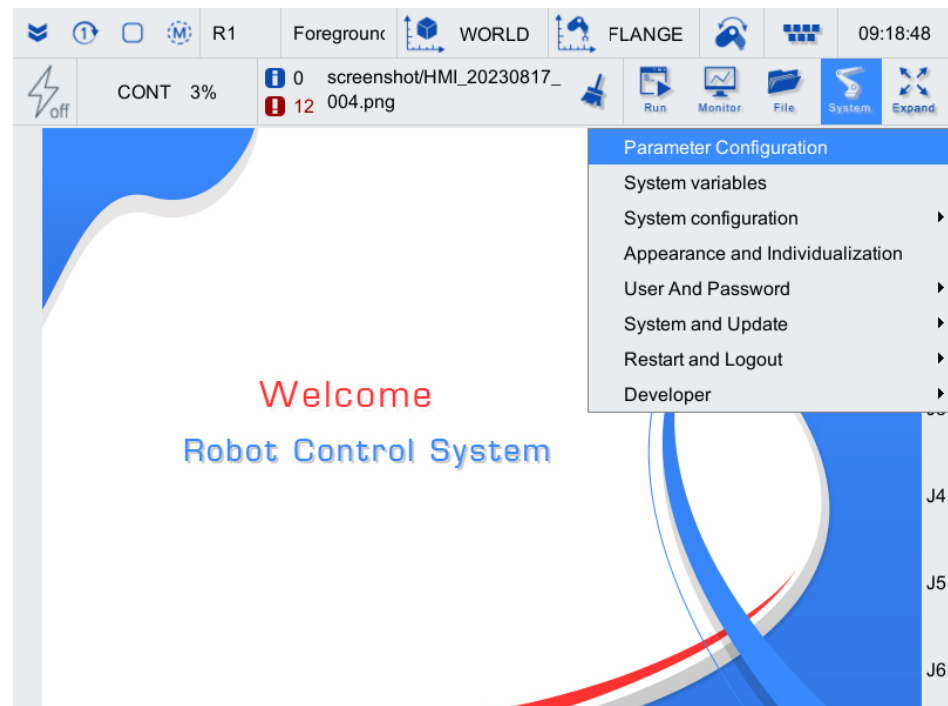

Figure 4-2 System Related Dropdown List
Step2. Click on [System/Parameter Configuration] in the upper right corner menu area, as shown in Figure 4-2.